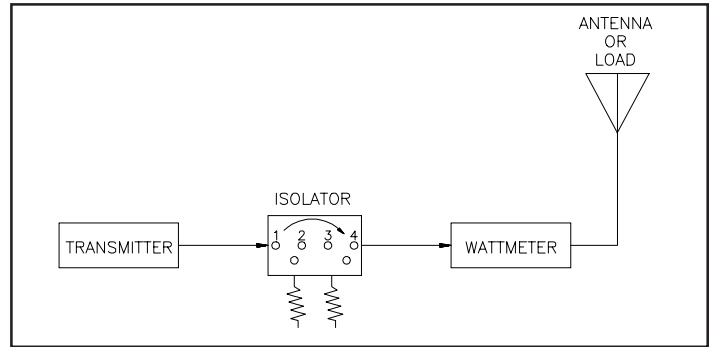

Figure 1
1. Place the isolator in the transmission line in the forward direction – with the arrow pointing toward the antenna or load – as shown in Figure 1.
2. Place a power meter in the transmission line as shown in Figure 1.
10. Reconnect the equipment as shown in Figure 1.